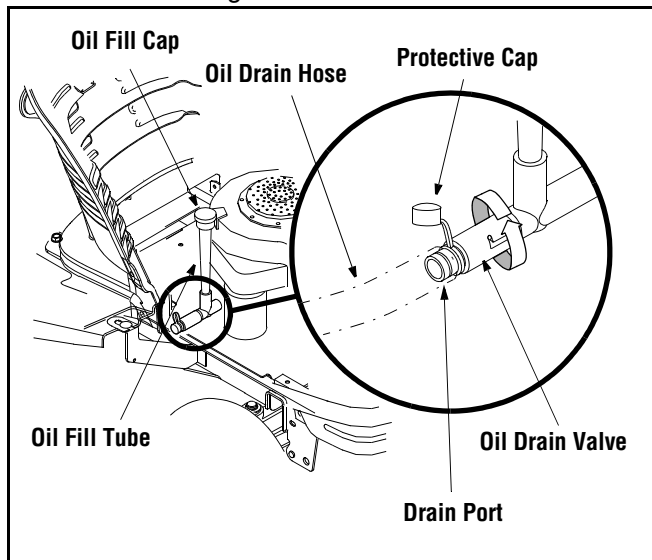

Figure 21
- Unscrew oil fill cap and remove dipstick from the oil fill tube. See Figure 21.
- Pop open the protective cap on the end of the oil drain valve to expose the drain port. See Figure 21.
- Push the oil drain valve in slightly, then rotate counterclockwise and pull outward to begin draining oil. See Figure 21.